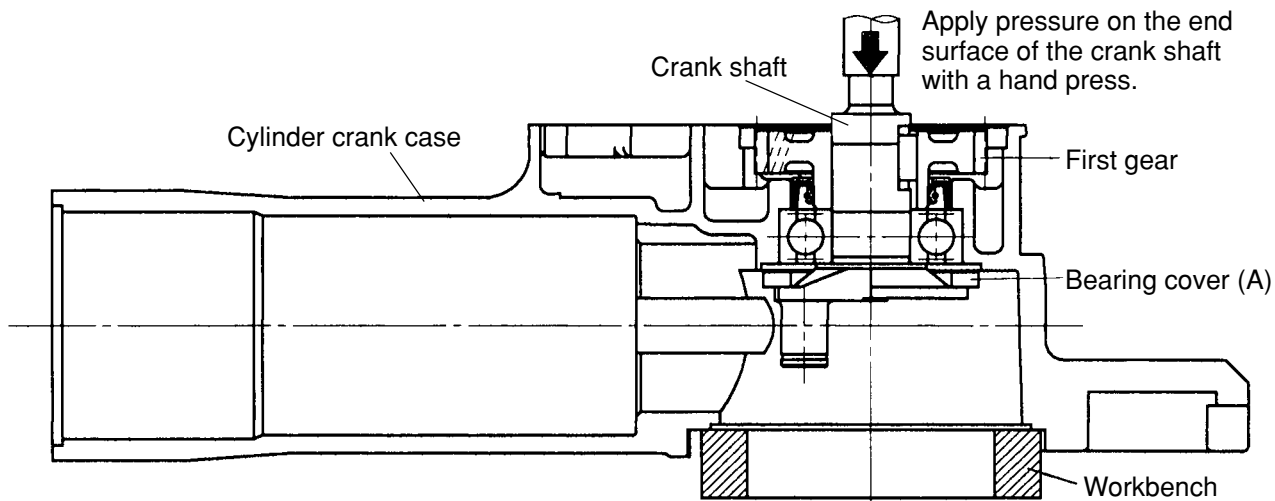

Fig. 13
Remove the grease from the Connecting Rod [32] side and the First Gear [51] side of the Cylinder Crank Case [46]. Remove the two Seal Lock Hex. Socket Flat Hd. Bolts M5 x 12 [42] fixing Bearing Cover (A) [43]. Then place the Connecting Rod [32] side of the Cylinder Crank Case [46] downward on a workbench and apply pressure on the end surface of the Crank Shaft [40] with a hand press to remove the First Gear [51] and the Crank Shaft [40] (Fig. 13). Before removing them, make sure that the two Seal Lock Hex. Socket Flat Hd. Bolts M5 x 12 [42] fixing Bearing Cover (A) [43] are removed.